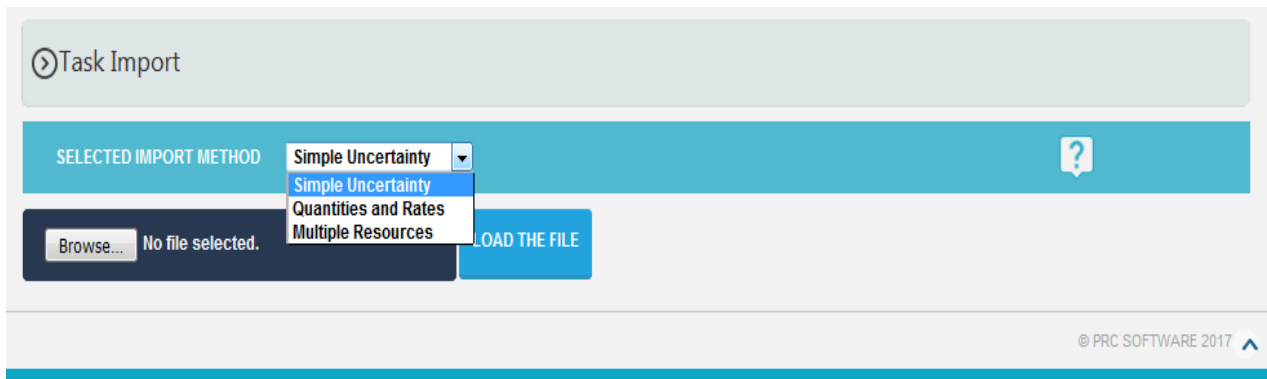
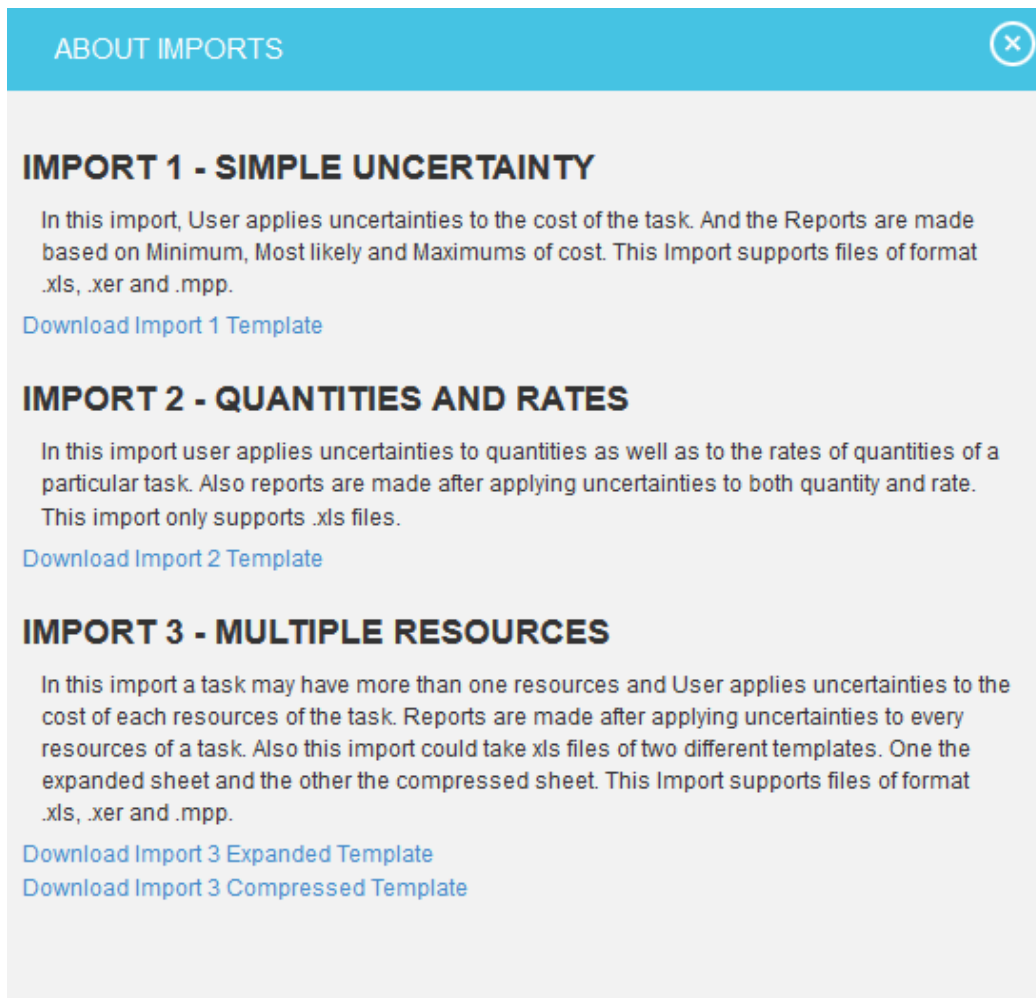

Figure 2.3
Figure 2.4
To know about the import methods, click the help icon (Figure 2.3) which shows a popup with a brief description about the import types. You can also download the template for each method. (Figure 2.4)
2. Select the import method *Simple Uncertainty* from the combo and the selected method will lock automatically. (Figure 2.3)
2. Select the import method *Quantities and Rates* from the combo and the selected method will lock automatically. (Figure 2.3)
2. Select the import method *Multiple Resources* from the combo and the selected method will lock automatically. (Figure 2.3)